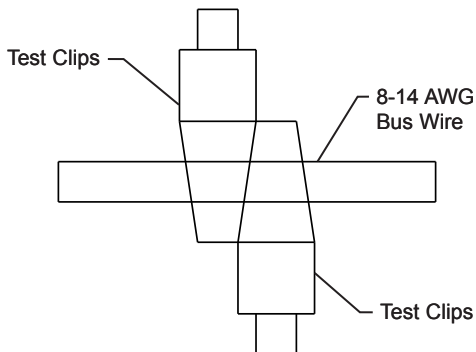

Figure 7. Wire
- 2) Proceed to short the leads as illustrated in figure 7. Once connected properly to the bus wire, the user must depress the “**LEAD CAL**” key again. Upon competition, the unit will beep and display “**OPEN LEAd**”.